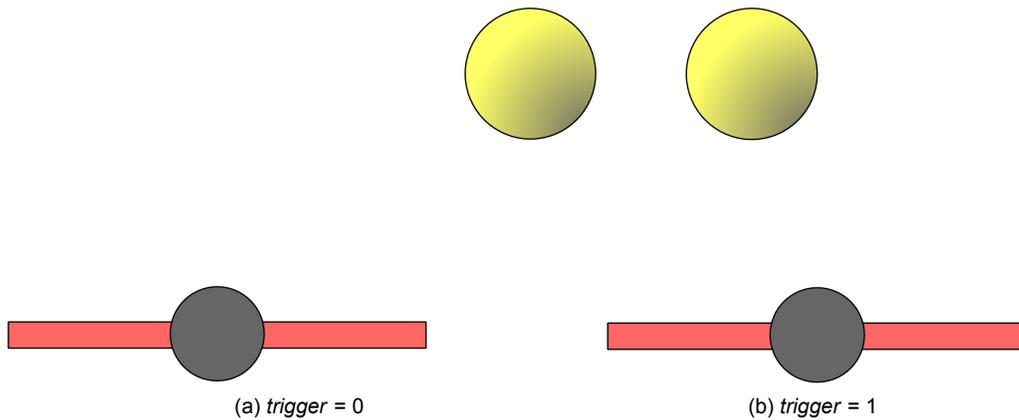

Figure 12.3: *trigger* states depending on the horizontal position of the paddle
- (a) Section 1: The blocks under section 1 look at the horizontal position of the ball with respect to the horizontal position of the paddle. If the ball is within the paddle's reach, the output *trigger* is 1 else it is 0. This output is used later to determine if the ball is touching the paddle. The output *trigger* states are shown in Figure 12.3.